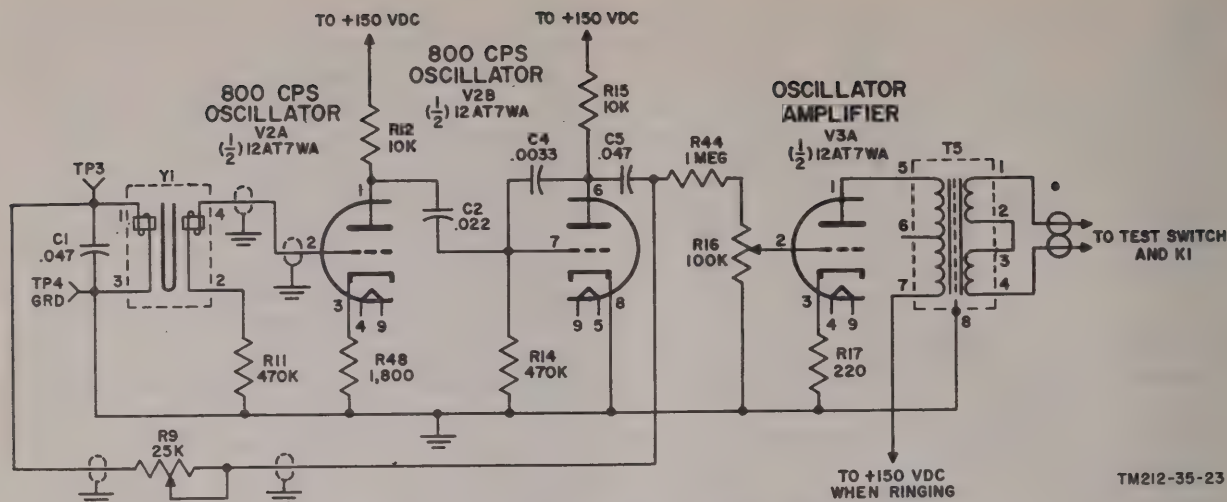

Figure 23. Oscillator and oscillator amplifier V3A, 800-cps.
d. When the tines start to snap back towards their rest position, the motion of the tines causes them to change the permanent magnetic field of the output coil, thereby generating a voltage in that coil. The coils are wound so that this tine motion (away from the coils) causes a negative voltage at terminal 4 of Y1. This negative voltage is applied to the grid of V2A (fig. 23) and, when amplified by tubes V2A and V2B, appears at the plate of V2B as an amplified negative voltage. The plate voltage of V2B is fed back through R9 to the input coil, weakening its magnetic field and therefore allowing further motion of the tines in the same direction. This continues until the momentum of the tines causes them to go through their rest position and they are as far removed from the coils as their mechanical tension will allow. At that time, they start to snap back in the reverse direction. Motion in the reversed direction (going towards the coils) causes the tines to change the permanent magnetic field which generates a voltage of opposite polarity (positive) in the output coil. After amplification, the positive voltage is fed back to the input coil of tuning fork Y1, strengthens its magnetic field, and causes further motion of the tines (by magnetic attraction) in towards the coils. This motion continues until the tines are again as close to the coils as their mechanical tension will allow at which time the motion is reversed and the cycle is started over again.
f. Resistor R9 (fig. 23) controls the amplitude of the oscillator output by controlling the maximum deflection of the tuning fork tines. This is accom-